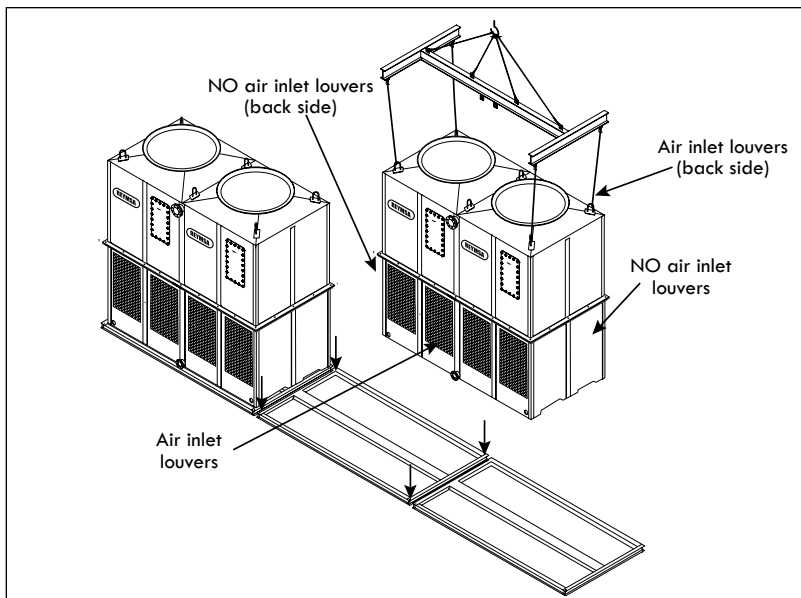

Figure A-70: S-Orientation - T1 module lifting and installation (RTM-B-S or RTPM-B-S)
- B. Follow the same procedure to install the next module. This module should have only two air inlets (on the large sides). See Figure A-70 for reference.